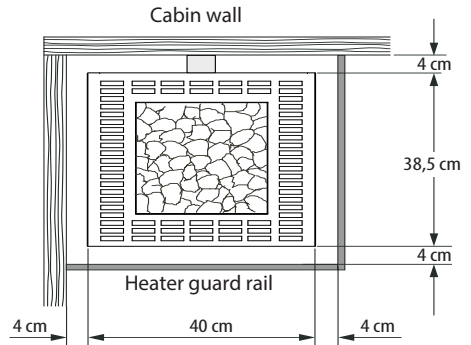

Fig. 2
- When you are assembling the sauna heater you must ensure that the horizontal (at the side) distance between the heater and cabin wall is at least **4 cm** (Fig. 2).